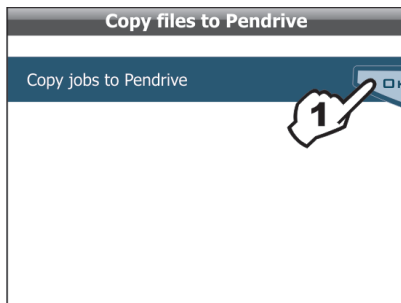

Fig. 55
- 1 Select item **Copy jobs to Pendrive** (Fig. 55) and press **OK**;